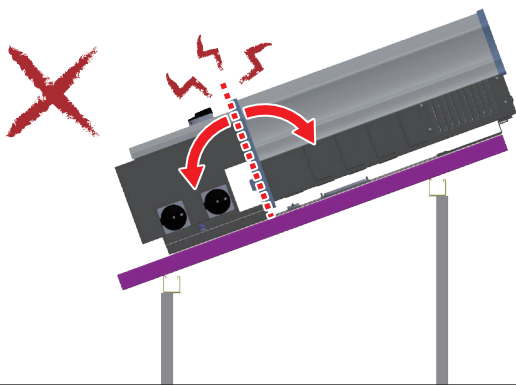

Figure 3-7: Stress/torque should be prevented when installing the inverter
2. When installing the inverter on the rack system, use care not to apply excessive stress/torque as shown in **Figure 3-7**. It's known that for most tilt installations, a rigid conduit body (e.g./ "LB") will be applied to the AC side. Installer must exercise care when installing, as overstressing the chassis may open a path for water intrusion through the contact surface between the inverter module and the wiring box.